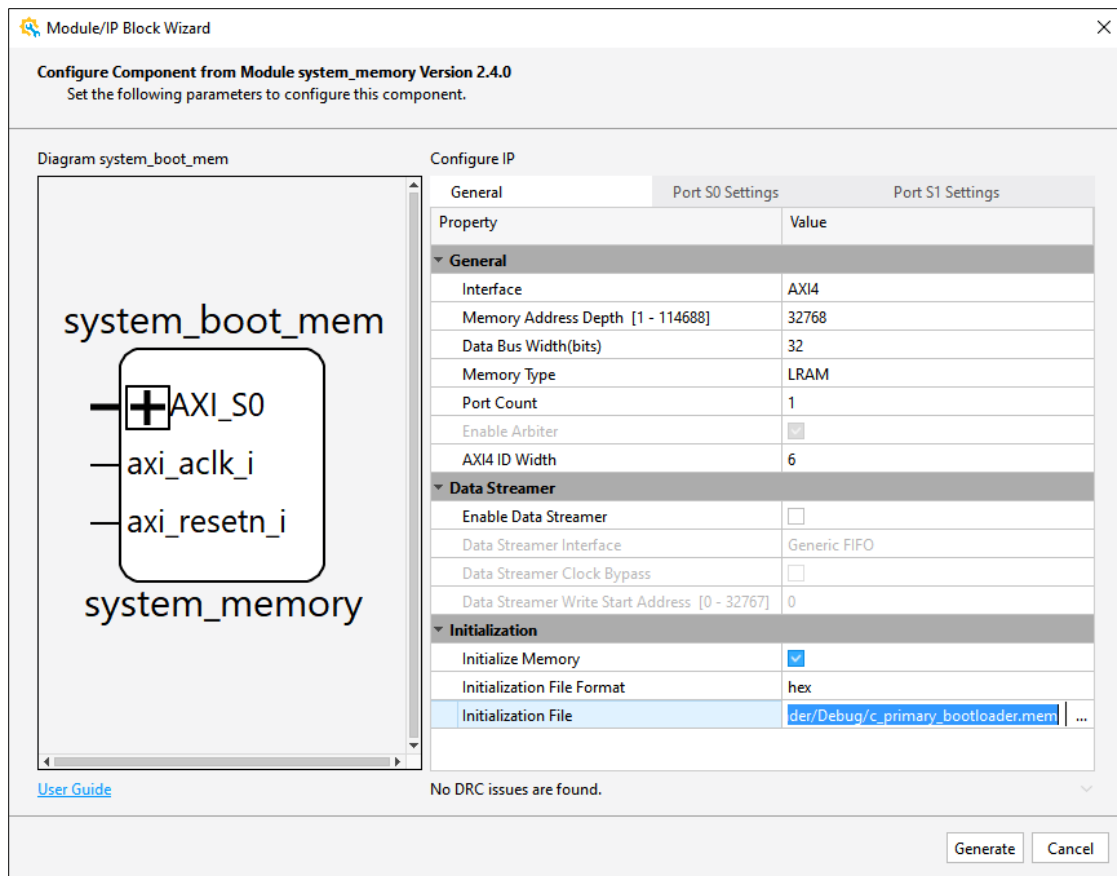

Figure 8.1. Bootloader File Updated in the System Memory
- d. Click **Generate** at the bottom-right corner of the **Module/IP Block Wizard** as shown in Figure 8.1.